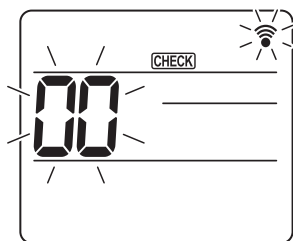
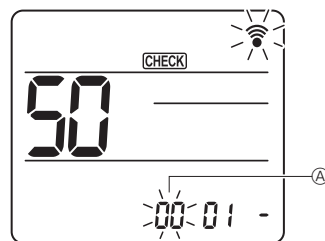
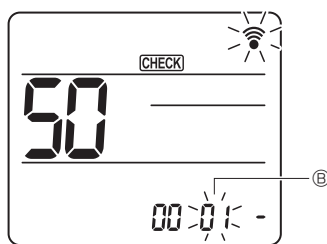
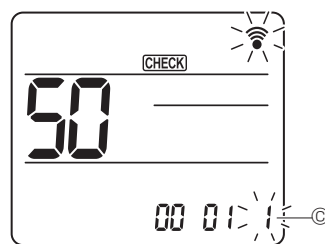

Fig. 7-16
Fig. 7-17
Fig. 7-18
Fig. 7-19
### 7.4.2. By wireless remote controller (Fig. 7-16, Fig. 7-17, Fig. 7-18, Fig. 7-19)
(Start this operation from the status of remote controller display turned off.) [CHECK] is lighted and "00" blinks. (Fig. 7-16)
- Press the [DOWN] button to set unit number ①. (Fig. 7-17)
- Press the [DOWN] button to set Mode number ②. (Fig. 7-18)
- Use the [DOWN] button to change the Setting number ③. (Fig. 7-19)
- Repeat select ③ and ④ to change multiple function settings continuously.